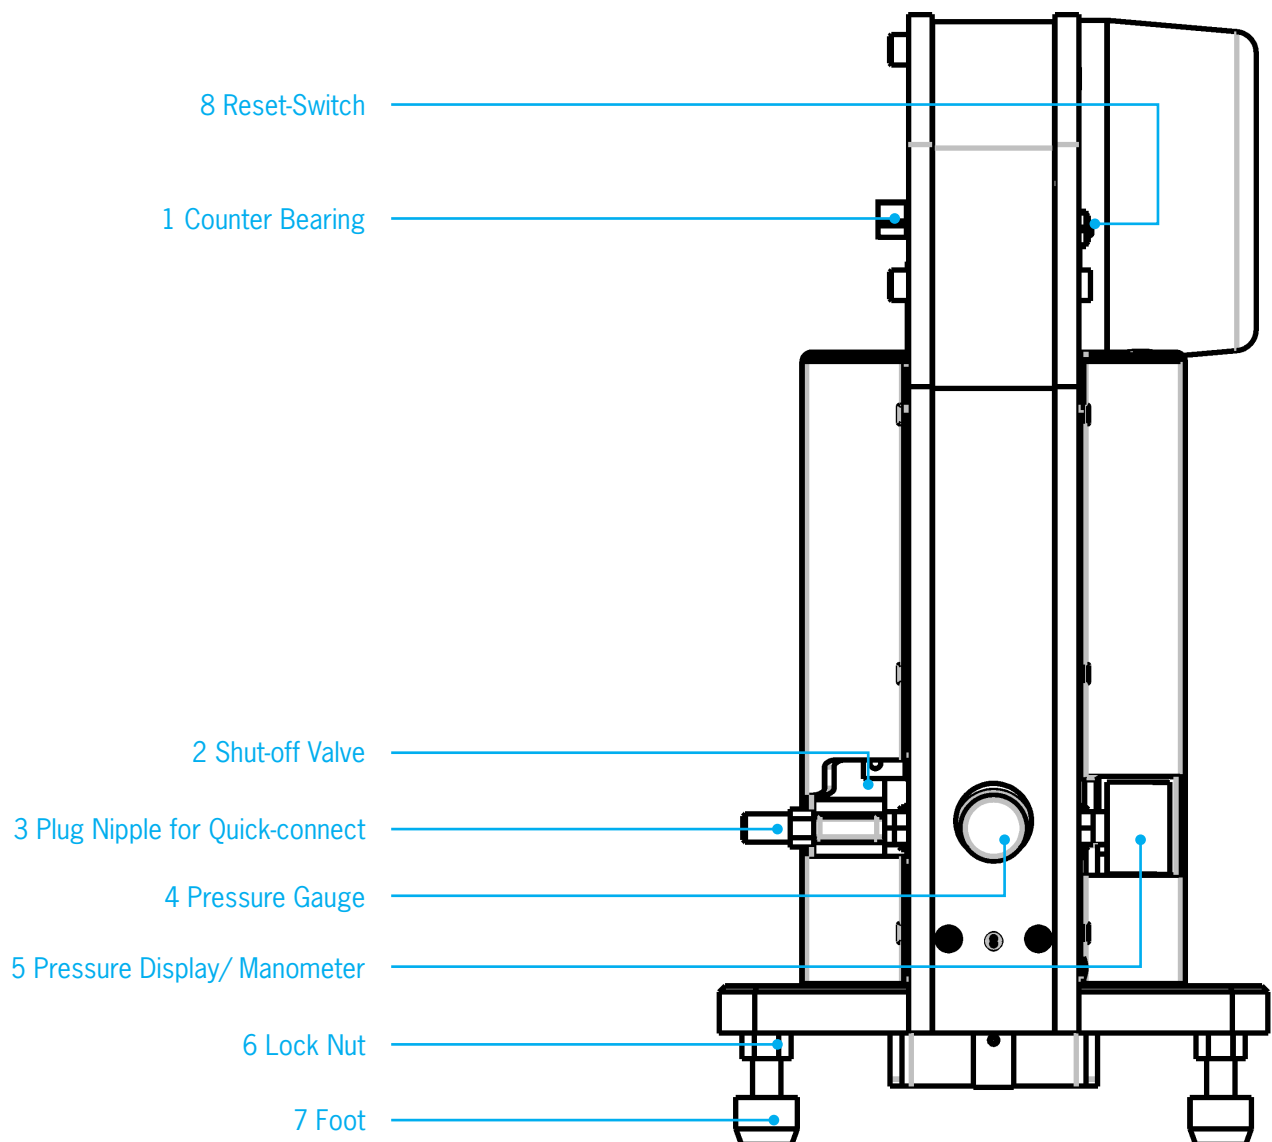
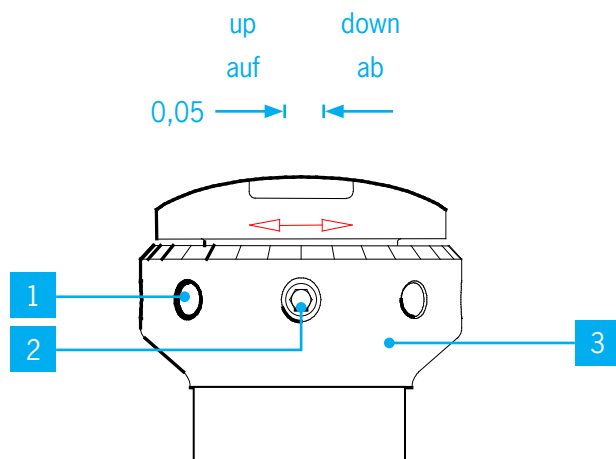

Fig. 2
Fig. 5
1. Place the machine at the final work location. The adjustable feet Fig.2/7 are used to place the machine firmly onto the work surface and the setting is secured in place by lock nuts Fig. 2/6 . The secure setup of the machine is very important!
2. Connect the supply hose for the compressed air. The build-in pressure gauge Fig. 2/4 is a factory setting and will limit the amount of air pressure to max. 6 bar. Please ensure that the air supply hose is properly connected. In order to operate the machine safely, the air pressure must be between 5 - 6 bar.
- Open the shut-off valve Fig. 2/2 , the machine moves to the starting position
- Interrupt air pressure with shut-off valve Fig. 2/2
- Release the remaining air by using the RESET switch Fig. 2/8
- Use a wrench SW 12 and place it onto the square counter bearing Fig. 2/1 turn counterclockwise till the crimping dies are closed (without air pressure)
- Inspect the correct fit of the crimping dies by lining up the top to the bottom and by closing the die set; turn the square counter bearing Fig. 2/1 with a wrench SW 12
- Open the shut-off valve Fig. 2/2
- Inspect the correct fit of the crimping dies by lining up the top to the bottom and by closing the die set; turn the square counter bearing Fig. 2/1 with a wrench SW 12 until upper and lower die set touch each other
- Open the shut-off valve Abb. 2/2
- Move the upper and lower part together by turning the counter bearing Fig. 2/1 with a wrench SW12 (keep RESET Fig. 2/8 compressed the entire time) till the scale and adjustment information become visible Fig. 5
- Loosen the pressure screw Fig. 5/2 with an Allen wrench SW 2,5 mm
- Use the slide ring with adjusting collar Fig. 5/3 to set the desired dimension adjustment. Use the auxiliary holes Fig. 5/1 provided to turn.
- After the correction has taken place, the adjusting collar Fig. 5/3 needs to be secured with the pressure screw Fig. 5/2 (An additional pressure screw can be found after a 180° turn. In order to tighten everything securely only one pressure screw, which is easiest to reach by the operator, must be tightened.); afterwards open the shut-off valve Fig. 2/2